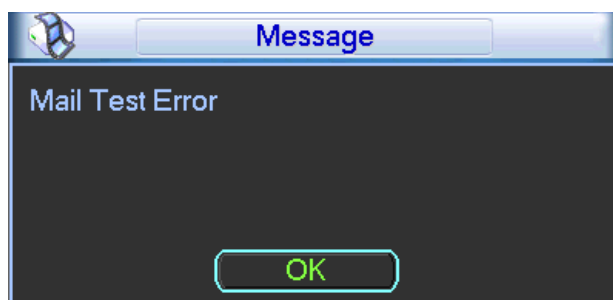

Figure 4-53
- Interval: Please check the above box to enable this function and then set the corresponding interval. System can send out the email regularly as you set here. Click the Test button, you can see the corresponding dialogue box to see the email connection is OK or not. See Figure 4-53.